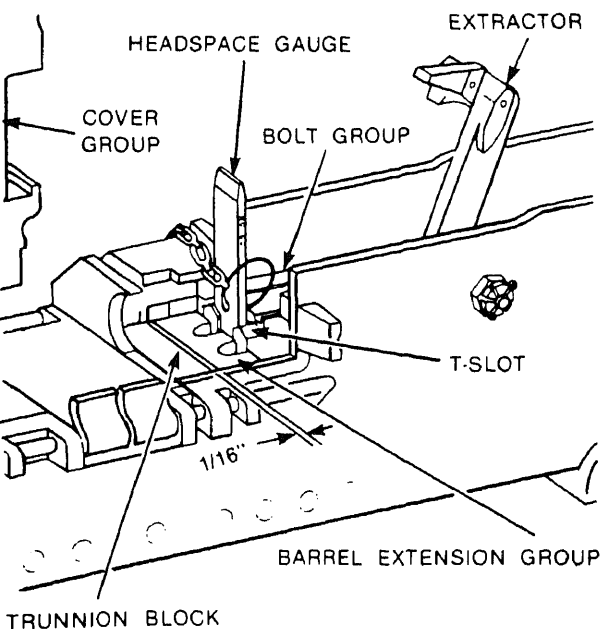

Figure 5-50.—Checking the headspace with the GO end of the headspace gauge.
4. Insert the GO end of the headspace gauge into the T-slot. The T-slot is between the face of the bolt and the rear of the barrel, as shown in fig. 5-50. The GO end of the gauge should enter the T-slot freely up to the center ring of the gauge. Remove the gauge and try to insert the NO GO end into the T-slot. If the NO GO end will not enter the slot, headspace distance is correct.